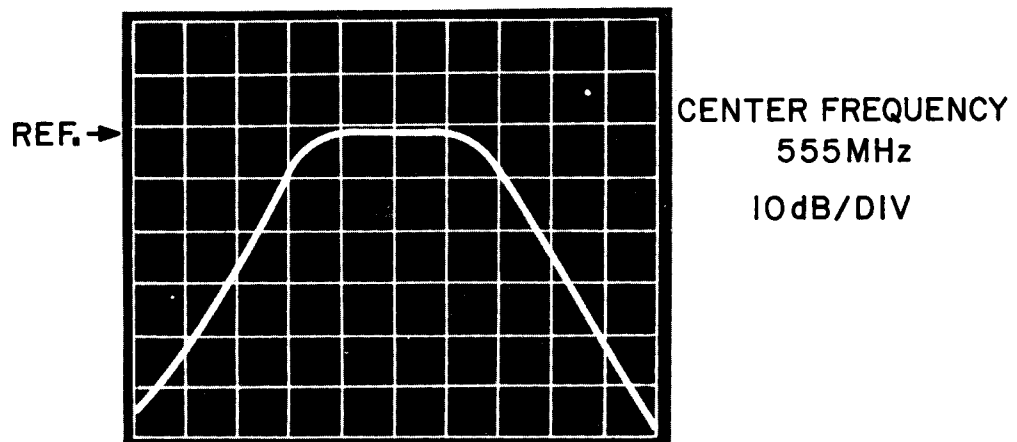

Figure 4-10. First Converter Typical Response
- Adjust C3, C4, C5, C6, C7, C8 and C9 to produce the best symmetrical response at 555 MHz having between 8.5 and 9 dB of gain and a 3 dB bandwidth of between 15 and 17 MHz. **Figure 4-10** illustrates a typical First Converter Signal Response.